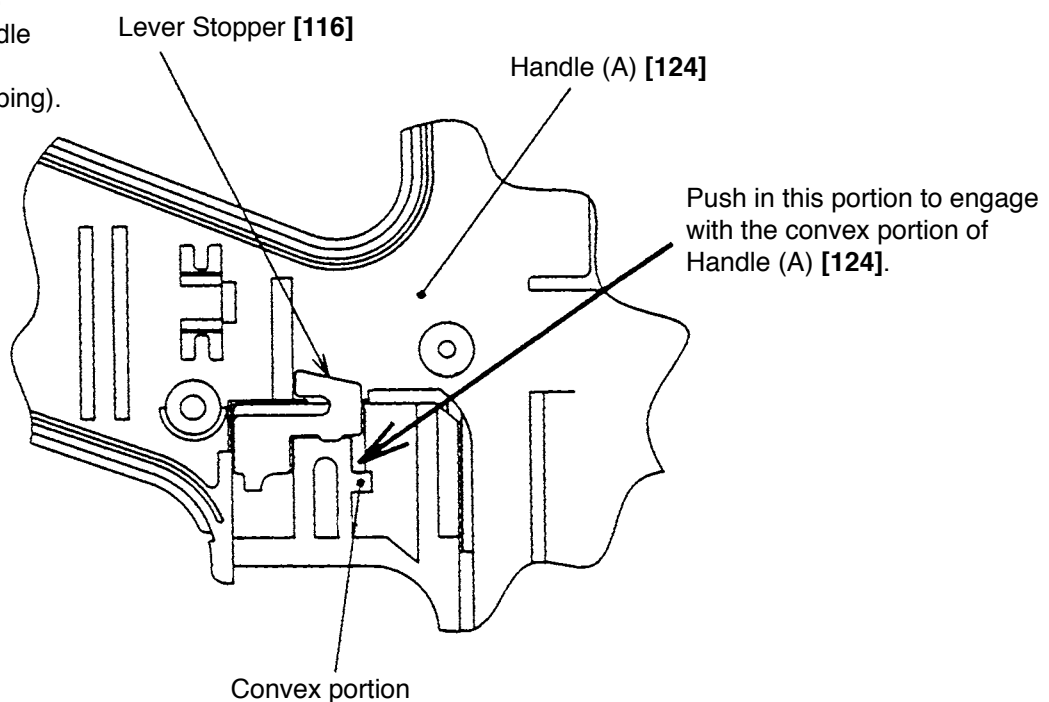

Fig. 54-1
- (1) Fit the Spring D8 [122] in Handle (A) [124].
- (2) Set the Pushing Lever Stopper [123] on the Spring D8 [122]. Do not tilt the Spring D8 [122] or insert the Pushing Lever Stopper [123] into the Spring D8 [122]. Check that the Pushing Lever Stopper [123] moves smoothly. Keep holding the Pushing Lever Stopper [123] with fingers until the Side Plate [55] is mounted because the Pushing Lever Stopper [123] is apt to be removed. Set the Ribbon Spring [121] to Handle (A) [124]. Mount the Side Plate [55] to Handle (A) [124] with the spring hooking portion of the Side Plate [55] engaged with the hook of the Ribbon Spring [121].
- (3) Insert a finger into the coil portion of the Ribbon Spring [121] from the front of Handle (A) [124]. Stretch the coil portion in the nail feeder pulling direction. Then set the nail feeder to the coil portion and return the nail feeder to the forward position slowly. Mount the Feeder Knob [125] to the nail feeder and tighten the Tapping Screw (W/Flange) D5 x 20 (Black) [126].
- Apply grease to the Lever Stopper [116] and mount it to the specified position on the handle. Push in the Lever Stopper [116] as far as it will go with a roll pin puller to engage with the convex portion of Handle (A) [124] (Fig. 54-1).